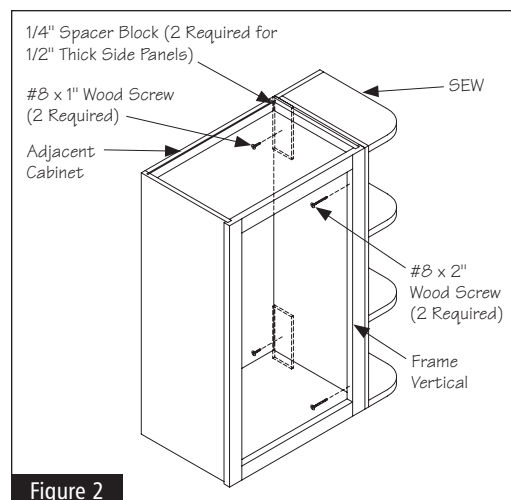

Figure 2
- 2 Using a 3/32" diameter drill bit, drill and countersink a pilot hole through each spacer block (1/2" thick Side Panels only) and side panel. Locate the pilot holes approximately in the center of the spacer blocks (1/2" thick Side Panels only). See Figure 2.
- 3 Using a 5/32" diameter drill bit, drill and countersink two pilot holes through the frame vertical of the adjacent cabinet. Holes should be centered on the inside edge of the frame vertical from front to back and should be two to three inches from the top or bottom of the vertical. See Figure 2.
- 4 Position the SEW unit into the desired location. Wood clamps are recommended to help hold the unit in place until it is secure. Attach the two #8 x 1" wood screws through the pilot holes drilled through the spacers (1/2" thick Side Panels only) in Step 2. Then attach the two #8 x 2" wood screws through the pilot holes drilled into the frame vertical in Step 3. See Figure 2.